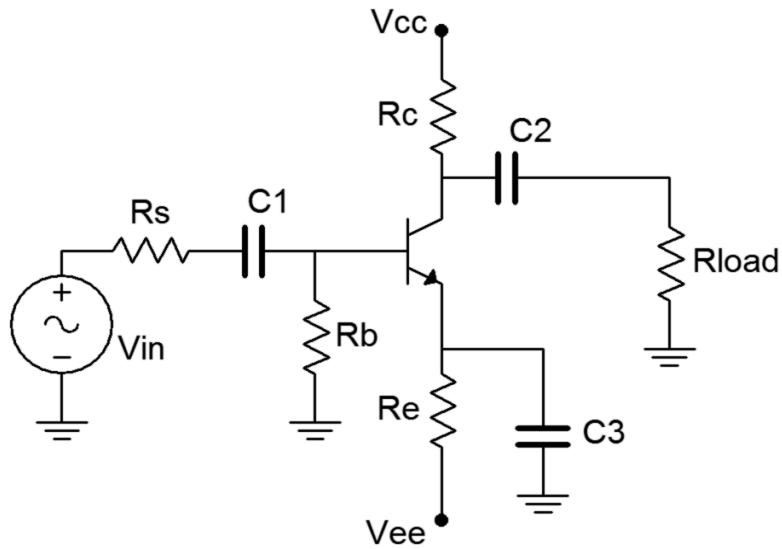

Figure 1
1. The circuit of Figure 1 is the same as the one used in the Common Emitter Amplifier exercise. The values used were $V_{cc} = 15$ volts, $V_{ee} = -12$ volts, $R_s = 10 \text{ k}\Omega$, $R_b = 33 \text{ k}\Omega$, $R_e = 22 \text{ k}\Omega$, $R_c = 15 \text{ k}\Omega$, $R_{load} = 20 \text{ k}\Omega$, $C_1 = C_2 = 10 \mu\text{F}$ and $C_3 = 470 \mu\text{F}$. It was shown that the amplifier produced considerable voltage at 1 kHz. Build the circuit using these values and verify that it is operating correctly by setting V_{in} to a 40 mV peak-peak sine wave at 1 kHz and measuring V_{out} . Compute the voltage gain and record these two values in Table 1.